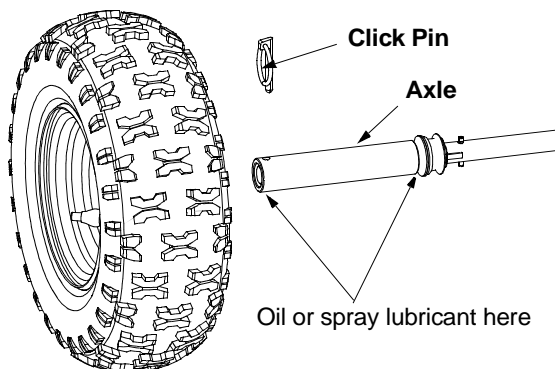

Figure 17
- Oil or spray lubricant into plastic wheel bearings inside the wheel hubs at least once a season. Remove wheels, clean and coat axles with a multi-purpose automotive grease. See Figure 17.